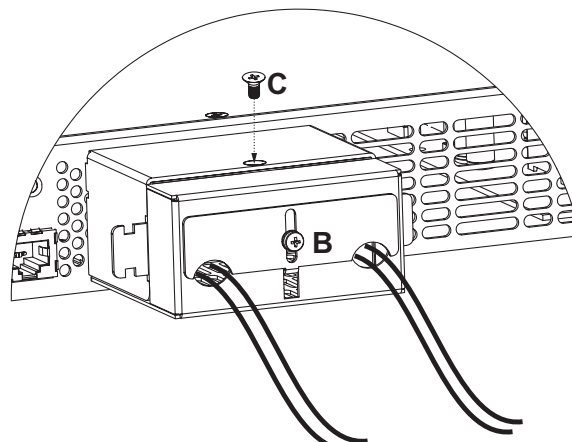

Fig.3-9: Enclosure assembly
7. Assemble the enclosure bottom cover to it's place, as shown in Fig.3-9, using screw "C", (tightening torque 4.8-5.3 Lb-inch).